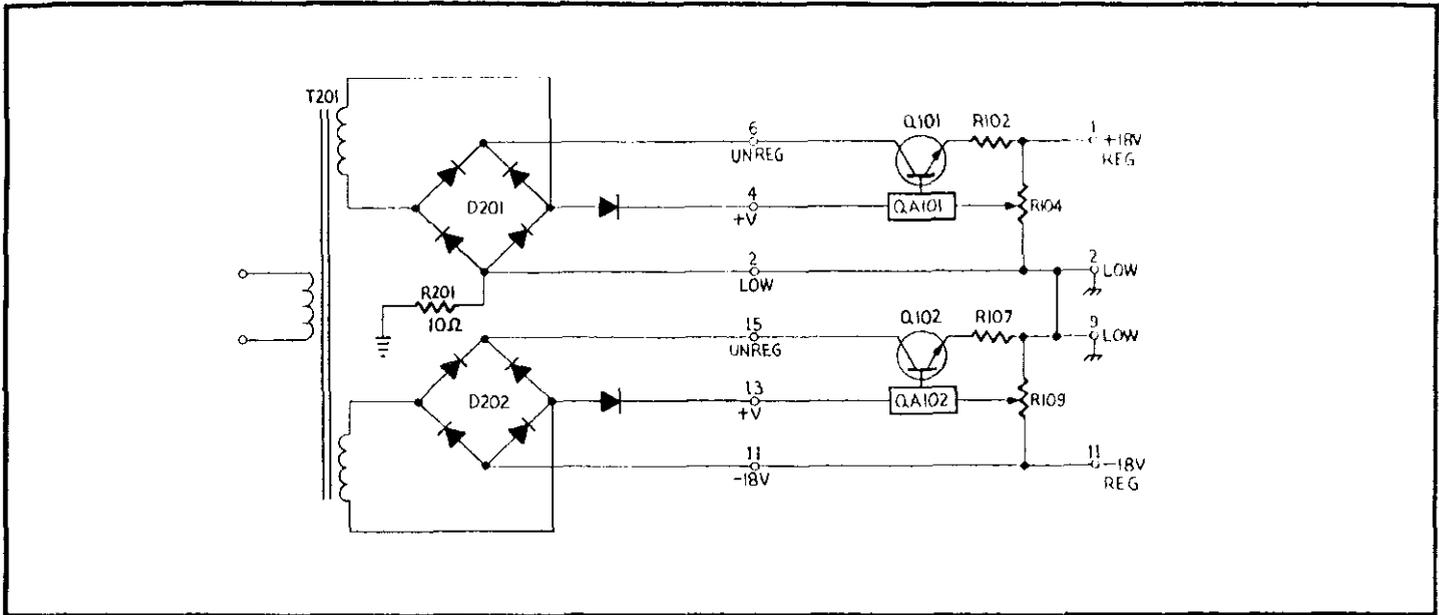

FIGURE 27. ± 18v Power Supply.
b. Regulator Board. The $\pm 18\text{V}$ regulators are composed of identical components. The regulators are connected as shown in Figure 27.